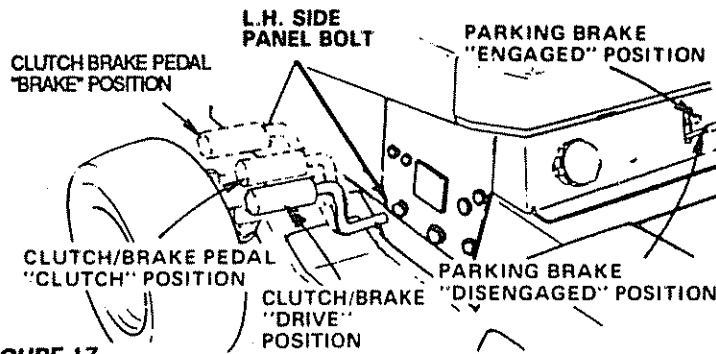

FIGURE 17
- Connect the other end of the cable to the L.H. side panel bolt (Fig. 17). NOTE: KEEP AWAY FROM GAS TANK AND BATTERY
1. L.H. Side Panel Bolt (Fig. 17)